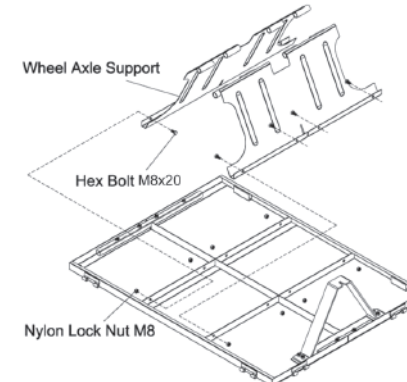

Fig. 3
STEP 3: Attach the Wheel Axle Support (See Fig. 3)